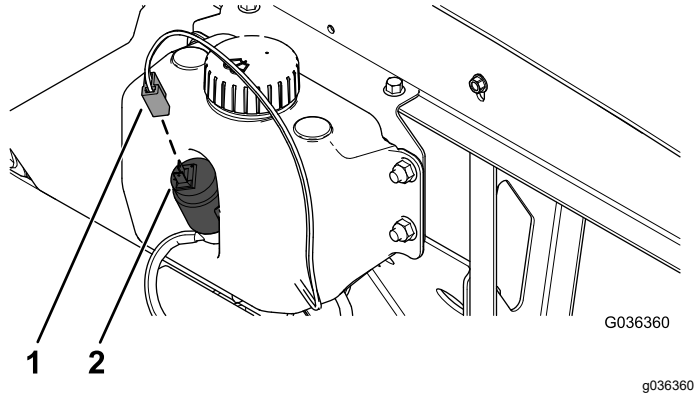

Figure 12
1. Align the 2-socket connector of the wire harness to the 2-blade connector of the washer pump (Figure 12).
2. Push the wire-harness connector onto the pump until the connector fully seats (Figure 12).